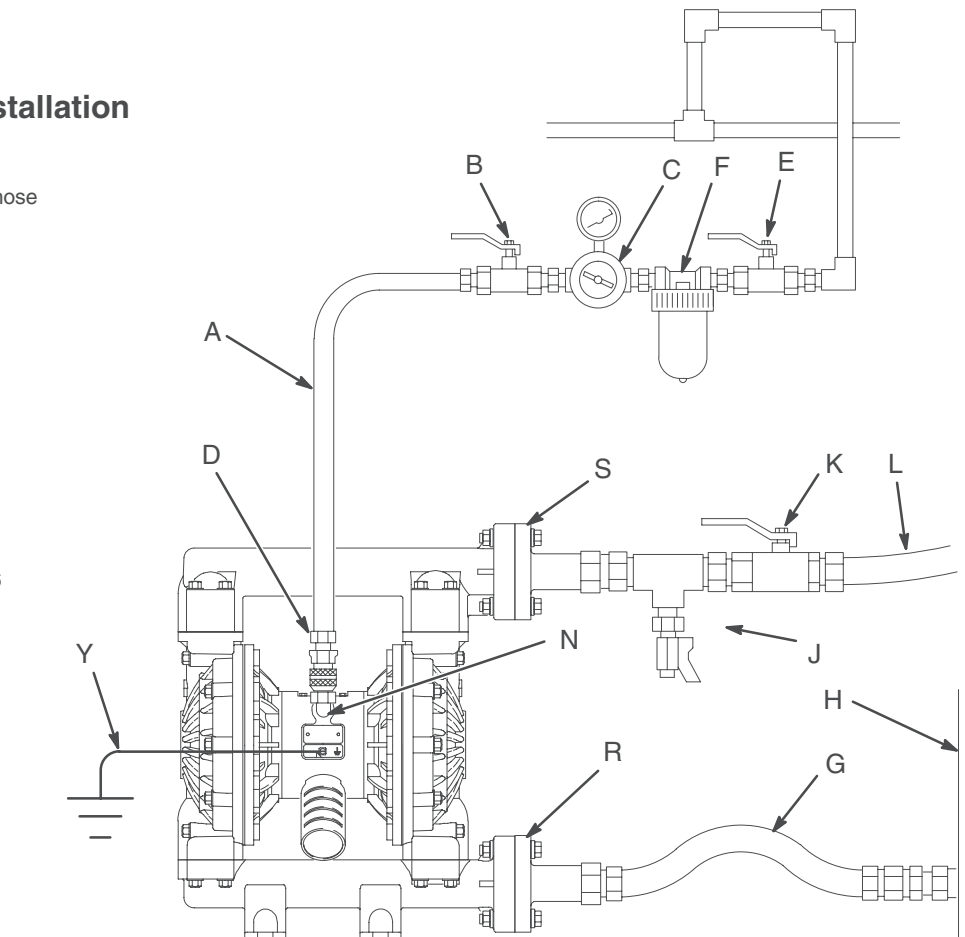

Fig. 2
- The Typical Installation shown in Fig. 2 is only a guide for selecting and installing system components. Contact your Graco distributor or Graco Technical Assistance (see back page) for assistance in planning a system to suit your needs.
A bleed-type master air valve (B) is required in your system to relieve air trapped between this valve and the pump. Trapped air can cause the pump to cycle unexpectedly, which could result in serious injury, including splashing in the eyes or on the skin, injury from moving parts, or contamination from hazardous fluids. See Fig. 2.
1. Install the air line accessories as shown in Fig. 2. Mount these accessories on the wall or on a bracket. Be sure the air line supplying the accessories is electrically conductive.
- a. Install an air regulator (C) and gauge to control the fluid pressure. The fluid outlet pressure will be the same as the setting of the air regulator.
- b. Locate one bleed-type master air valve (B) close to the pump and use it to relieve trapped air. See the **WARNING** at left. Locate the other master air valve (E) upstream from all air line accessories and use it to isolate them during cleaning and repair.
- c. The air line filter (F) removes harmful dirt and moisture from the compressed air supply.
2. Install an electrically conductive, flexible air hose (A) between the accessories and the 1/2 npt(f) pump air inlet (N). See Fig. 2. Use a minimum 1/2" (13 mm) ID air hose.
3. Screw an air line quick disconnect coupler (D) onto the end of the air hose (A); be sure the coupler porting is large enough to not restrict the air flow, which will affect pump performance. Screw the mating fitting into the pump air inlet snugly. Do not connect the coupler (D) to the fitting until you are ready to operate the pump.
KEY FOR FIG. 2
A fluid drain valve (J) is required to relieve pressure in the hose if it is plugged. The drain valve reduces the risk of serious injury, including splashing in the eyes or on the skin, or contamination from hazardous fluids when relieving pressure. Install the valve close to the pump fluid outlet. See Fig. 2.
1. The pump fluid outlet (S) is a 1–1/2 in. raised face flange. Refer to **Flange Connections** on page 9.
2. Install a fluid drain valve (J) near the fluid outlet. See the **WARNING** above.
3. Install a shutoff valve (K) in the fluid outlet line.